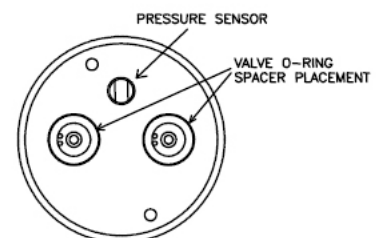
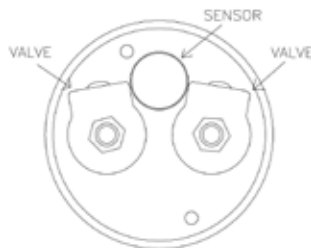
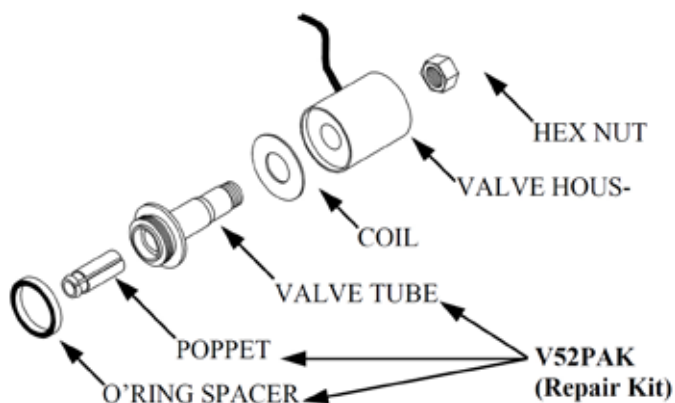

Figure 12
Figure 13
Figure 14
- Figure 14:** Of each valve assembly, remove hex nuts and disassemble valve tube from coil and valve housing. (Keep coil washer, valve housing and hex nut because they are not included in the repair kit and can be reused)
- Remove poppet and O-ring spacer from manifold. See **Figure 12** for O-ring spacer location and **Figure 14** for valve orientation
- If sensor needs to be replaced, unthread sensor from manifold. See **Figure 13** for sensor location.
2. Place sealant compatible with media in use on the second or third full threads of the pressure sensor (exercising care not to get sealant into the manifold passages), and thread into 1/8" NPT port on top of manifold. See **Figure 13** for sensor location. **Note:** Do not use any kind of thread sealant.
1. Remove repair kit "V52PAK" from box. **Figure 14**. V52PAK (repair kit includes: (2) O-ring spacers, (2) poppets, (2) valve tubes & span wrench
2. Place new O-ring spacers in valve cavity of manifold. **Figure 12**
3. With poppet installed in the valve tube, thread valve tubes into manifold cavities tightly using span wrench. See **Figure 14** for poppet orientation.
4. Check to **ensure valve tubes are tight!** Place coil washer and valve housing on valve tube, referring to **Figure 14** for assembly order. Turn square end of valves toward sensor. **Figure 13**. Tighten the hex nuts 1/8 turn past finger tight. Do not over tighten!